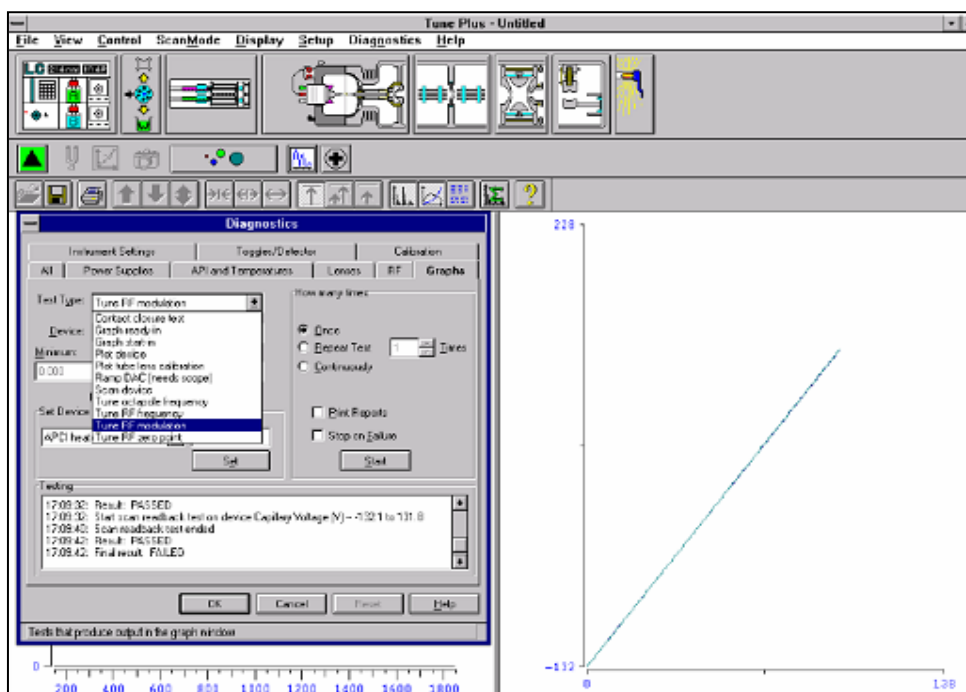

Figure 1. Diagnostics dialog box and Graph view.
6.2.5. Reposition the Diagnostics dialog box such that it does not block the Graph view as shown in Figure 1.